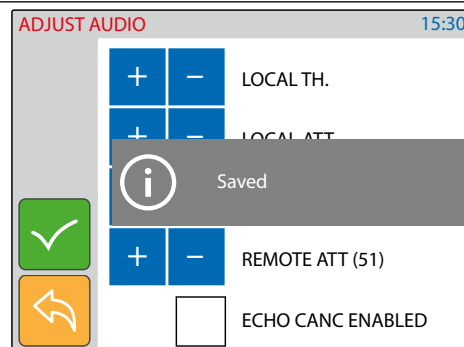

Fig. 18 Save the speech adjustment
- Once a good speech level is obtained tap on the tick button to confirm (**Fig. 18**).
- A notice will inform that the adjustment is saved (**Fig. 18**).